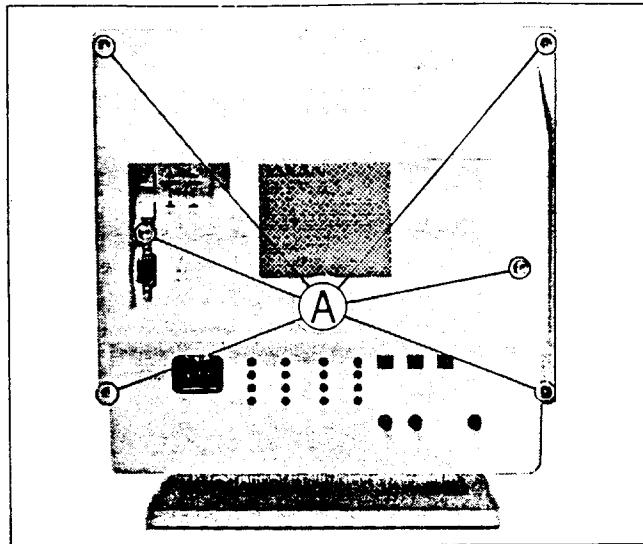

Fig. 1
2. Unscrew the six screws marked **(A)** shown in Fig. 1.